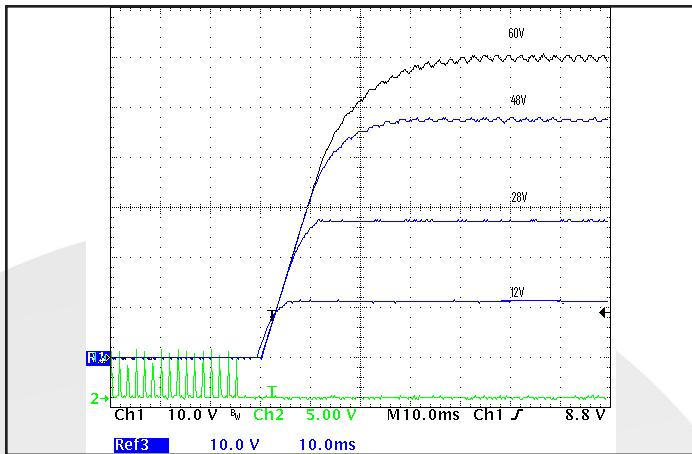

Figure 7: Turn-on transient at 28V input; full load (10ms/div). Top Traces: Vout (10V/div). Bottom Trace: ON/OFF input (5V/div)
**REMOTE ON/OFF:** Only Negative On/Off logic is available in the converter series: logic high at the input turns the converter Off while a logic low turns it On. Timing of this is shown in Figures 7, 8. A high level can be driven to any voltage between 1.5V and 3.3V, or simply left floating as the unit contains an internal  $25K\Omega$  pull-up to 5.0V. The pin can be pulled low (to  $V_{out-}$ ) by an optocoupler, an open-source/drain transistor or wired permanently to  $V_{out-}$ . To provide noise immunity the input has 0.3V of hysteresis.